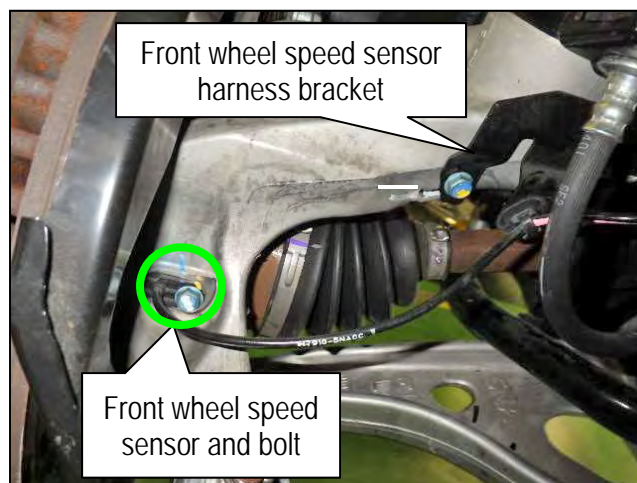

Figure 1
3. Remove the front wheel speed sensor bolt (10 mm) from the steering knuckle (Figure 1).